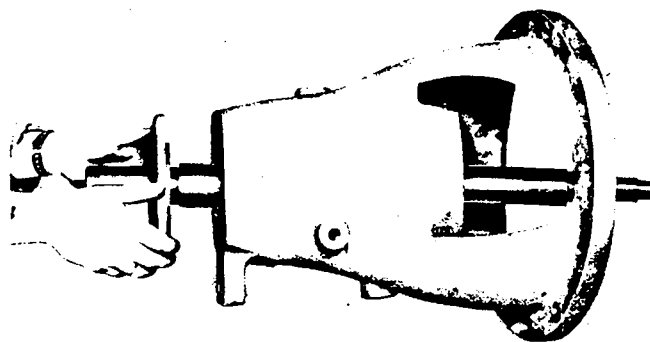

Fig. 21: Removal of bearing cover
Remove both bearing covers (360) - fig. 21.